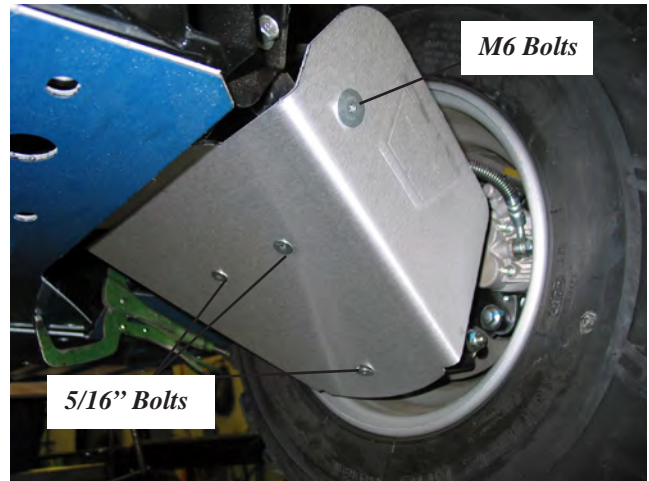

Figure 4
5. Fasten guard to rear flange on a-arm using M6 bolt (B5). Do not tighten. **(Figure 4)**
5/16" bolts (B3) washers (B1) and lock nuts (B2) as shown. Do not tighten. **(Figure 4 and 5)**